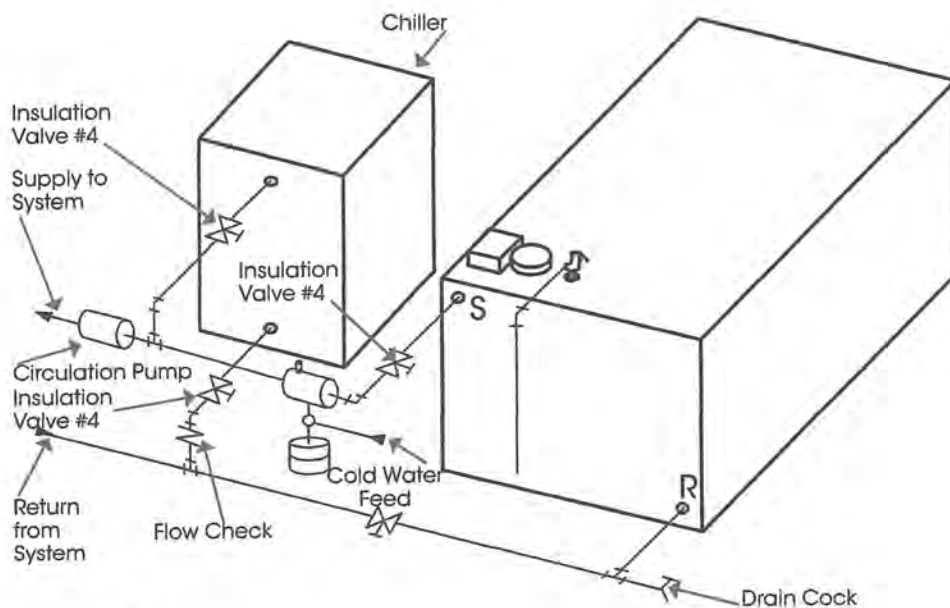

**Figure 23**
**6. Integrated system with multiple heating zones and no priority for domestic hot water using zone valves:** Where the boiler output is large relative to the heating capacity of the coil in the indirect water heater priority for domestic hot water is not necessary. Further, with multiple heating zones there is less likelihood that all zones will call for heat at once and require full boiler output for heating. Because the tank is usually close to the boiler, the pressure drop through the coil circuit will generally be less than through a heating zone circuit, which will provide some measure of priority for domestic hot water. This can be enhanced by increasing the pipe size to the coil e.g. if 3/4 inch pipe is used on the heating zones run 1 inch pipe to the coil. (See Figure 23.) Should priority for domestic hot water be mandatory, it can be provided as shown in Wiring Section, Figure 24.